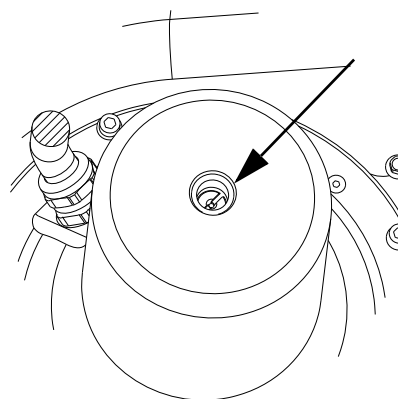

Fig. 8 Top of slotted motor shaft
1. Remove the screws pos. 55b and lift the motor out of the tank.
3. Fit the new O-ring pos. 187a on the new pump. Check that the o-ring is home in the recess.
4. Fit the motor into the tank and tighten the screws pos. 55b. to the correct torque. See section 4. *Torques and lubricants*.
5. Check the direction of rotation by removing the eye bolt and the plug at the top of the motor. See fig. 8, or use a rotation measurement tool (E) (see section 5.1 *Special tools*).
2. Turn the motor bottom up and remove the O-ring pos. 187 and any lip seal ring pos. 187a.
3. Loosen the eye bolt and the plug on the top of the motor and lock the shaft by inserting a screw driver in the slotted shaft end. See fig. 8.
4. Loosen and remove the impeller pos. 49 using the key to the impeller (A).
6. Lock the shaft by inserting a screw driver in the slotted shaft end. See fig. 8.
7. Slightly tighten the impeller with the impeller key (A).
8. Replace the O-ring pos. 187.
9. Fit the motor into the tank and tighten the screws pos. 55b to the correct torque. See section 4. *Torques and lubricants*.